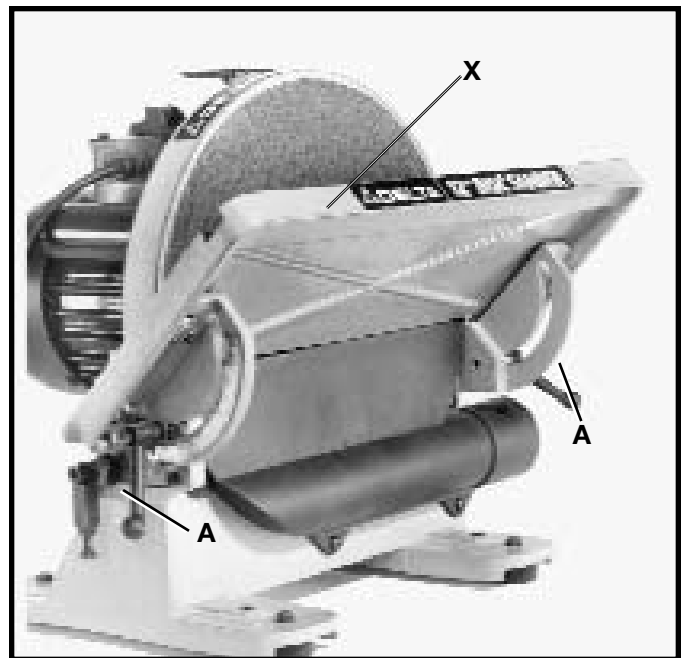
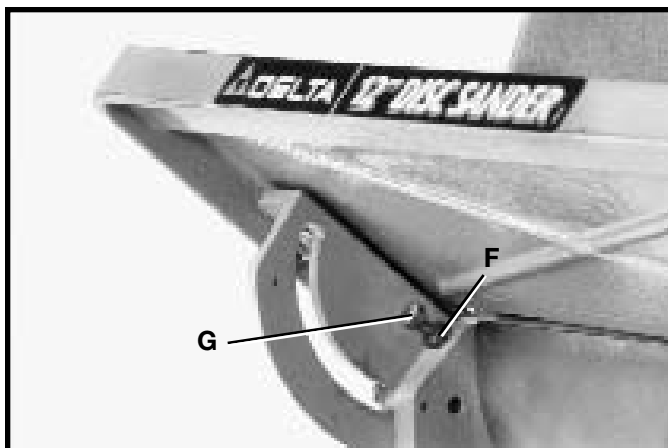
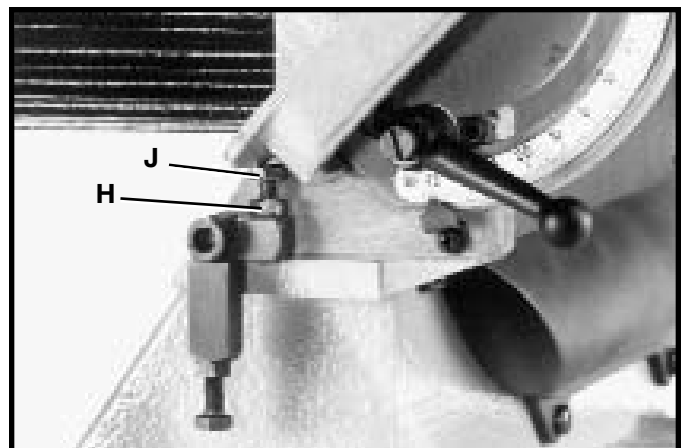

Fig. 17
Fig. 18
Fig. 19
The table can be tilted up to 45 degrees up or down. To tilt the table down as shown in Fig. 14, loosen table lock handles (A) Fig. 13, and pivot table until desired angle is established. Then tighten table locking handles. To tilt the table (X) up as shown in Fig. 17, loosen table lock handles (A) Fig. 13, pivot 90 degree positive stop (B) Fig. 15, to the position shown, and tilt the table to the desired angle. Then tighten table locking handles. **NOTE:** Table locking handles (A) Fig. 13, are spring-loaded and can be repositioned on the stud by pulling out the handle and repositioning it on the nut. A scale (C) Fig. 15, and pointer (D) are provided to indicate the degree of tilt.
⚠WARNING: WE SUGGEST THAT ALL BEVEL SANDING APPLICATIONS BE PERFORMED WITH THE TABLE TILTED DOWN AS SHOWN IN FIG. 14; HOWEVER, IF THERE IS A NEED TO TILT THE TABLE UP AS SHOWN IN FIG. 17, THE WORKPIECE MUST BE SECURELY FASTENED OR CLAMPED TO A FIXTURE OR JIG TO PREVENT THE WORKPIECE FROM BEING TORN FROM HANDS AND BECOMING TRAPPED BETWEEN THE TABLE AND ABRASIVE DISC.
2. Loosen table locking handles (A) Fig. 17, and tilt the table up as shown, to expose lock nut (F) Fig. 18, and screw (G). Loosen lock nut (F) and return table to the 45 degree down position. With the table lock handles loose, turn adjustment screw (G) using the supplied wrench (not shown) until the table is 45 degrees to the disc. Then tighten lock handles (A) Fig. 17, and locknut (F) Fig. 18.
3. Tilt the table to the 45 degree up position as shown in Fig. 17, and tighten table locking handles (A). Place a square on the table and against the disc and check to see if the disc is 45 degrees to the table surface. If an adjustment is necessary, proceed as follows:
4. Loosen table locking handles (A) Fig. 17, and locknut (H) Fig. 19, located on the left side of the table. Turn adjustment screw (J) using the supplied wrench (not shown) until the table is 45 degrees to the disc. Then tighten table locking handles and locknut (H) on adjustment screw (J).
5. Adjust pointer (K) Fig. 19, so that the pointer reads 45 degrees.